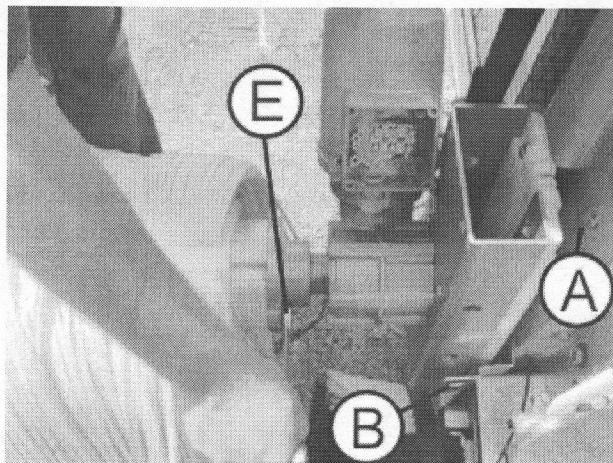

Fig. 040
1. Unscrew the lower guide rail (A) of the roof brush on side 1 (Fig. 040).
2. Unscrew limit switch roof brush below (B) (Fig. 040)
8. Loosen connecting screws (E) of brush shaft and drive flange and remove complete unit (Fig. 040).
13. Mount running wagon on brush shaft. The tightening torque for the screws (E) is XX Nm (Fig. 040).
14. Mount running wagon on brush shaft. The tightening torque for the screws (E) is XX Nm (Fig. 040).